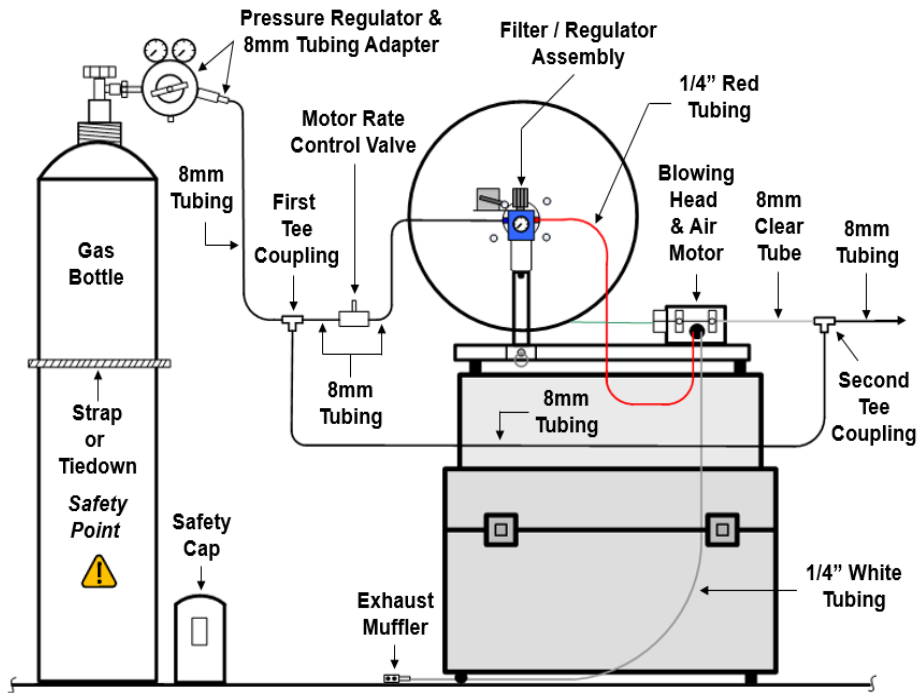
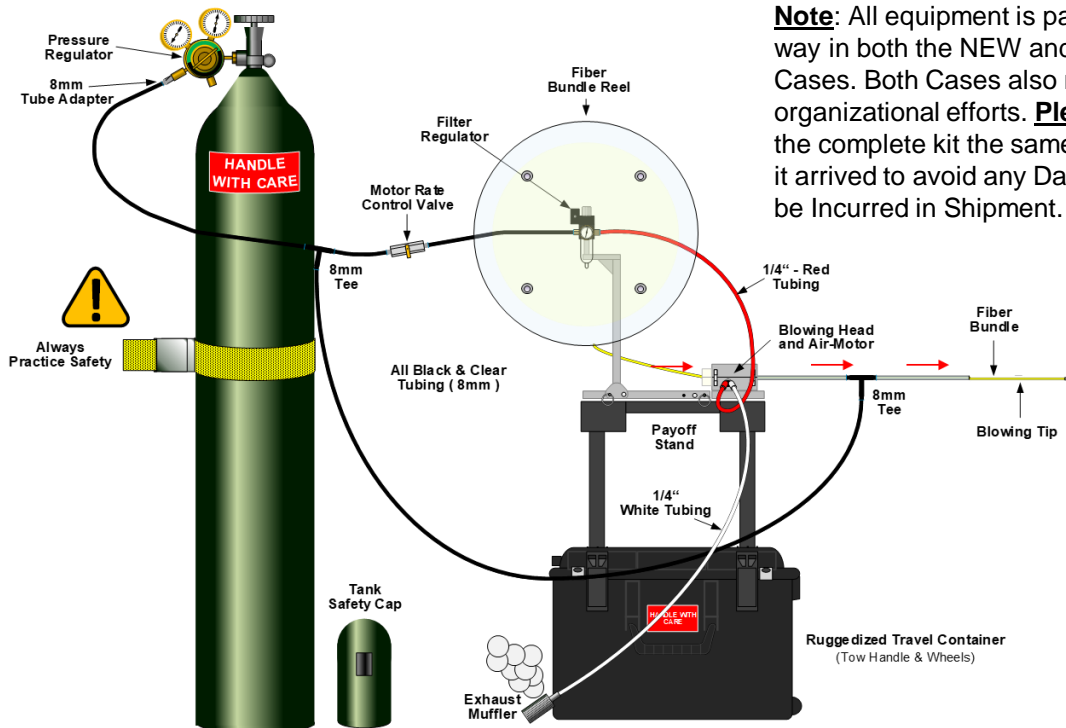

Figure 60
Figure 61
14.5 See Fig. 60 for the Old Transit Case design and See Fig. 61 for the New Transit Case design.